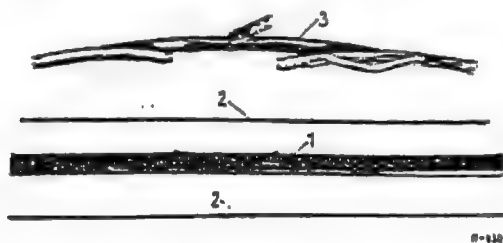

Fig. 82-4/4
2. Push out the rubber blade (1) together with the two retaining springs (2) at the one end of the anchorage in the wiping blade (3) in the direction indicated by the arrow (Fig. 82-4/4).
3. Pull out the two retaining springs (2) (Fig. 82-4/4).
4. Carefully take the rubber blade (1) out of the anchorage of the wiper blade (3) (Fig. 82-4/4).